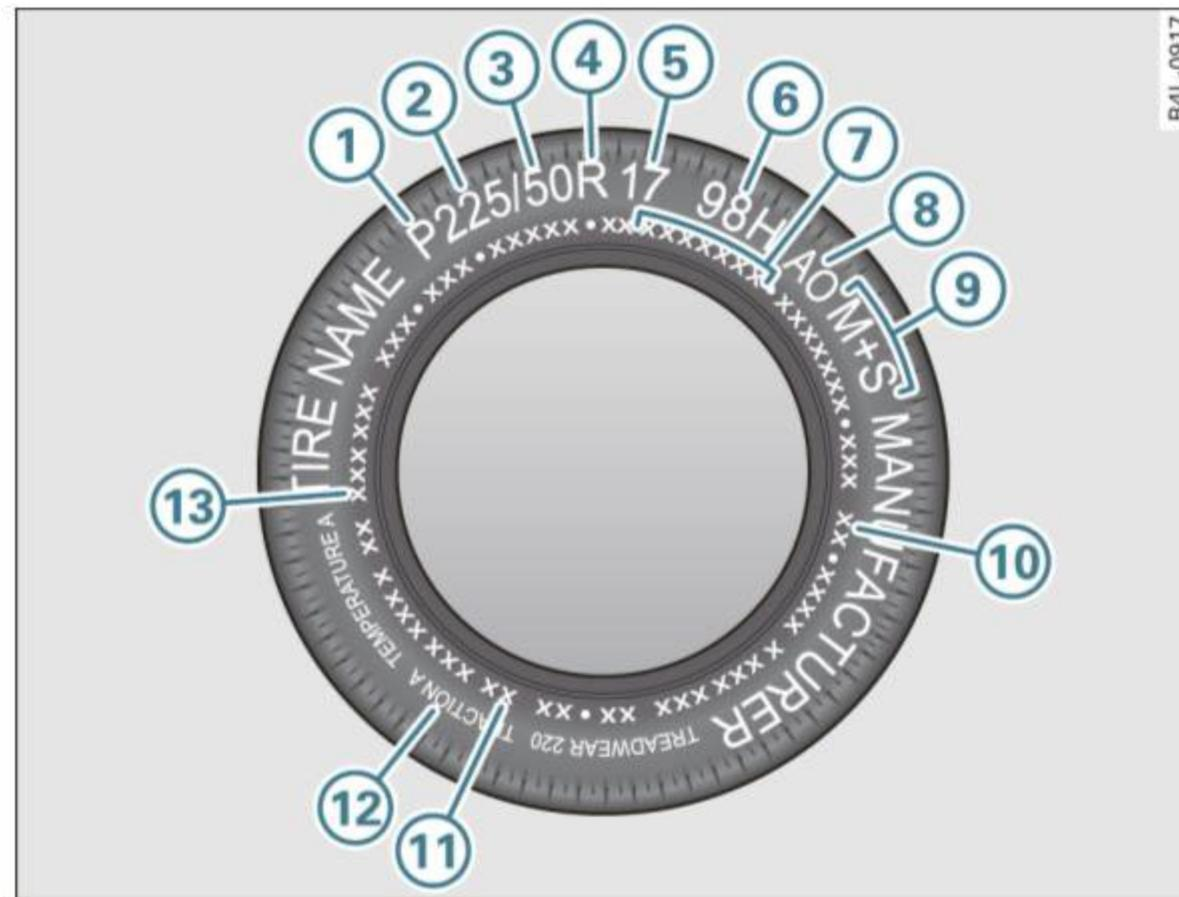

Fig. 211 Tire specification codes on the sidewall of a tire
- Check the tire sidewall (⇒ *page 281*, fig. 211) to determine the designated load rating for a specific tire. ■
Federal law requires tire manufacturers to place standardized information on the sidewall of all tires ⇒ *page 281*, fig. 211. This information identifies and describes the fundamental characteristics, the quality grade of the tire and also provides a tire identification number for safety standard certification and in case of a recall.
Quality grades can be found where applicable on the tire side wall between tread shoulder and maximum section width ⇒ *page 281*, fig. 211.